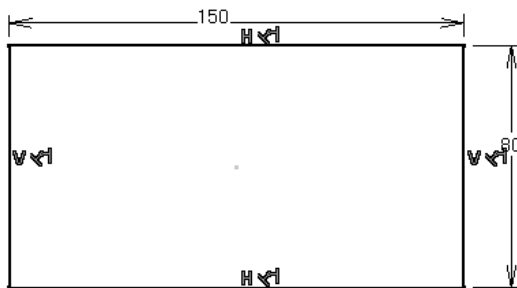
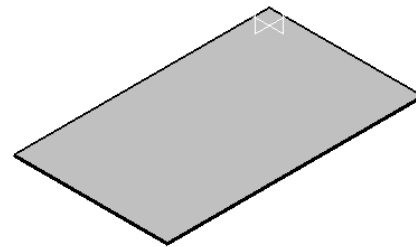

Figure 15-136 Sketch of the base wall
Figure 15-137 The resultant base wall
- Draw the sketch and convert it into a base wall by using the **Wall** tool, refer to Figure 15-136 and Figure 15-137.
1. Invoke the **Sketcher** workbench by selecting the xy plane as the sketching plane and draw the sketch, as shown in Figure 15-136.
3. Choose the **OK** button to create the base wall, as shown in Figure 15-137.